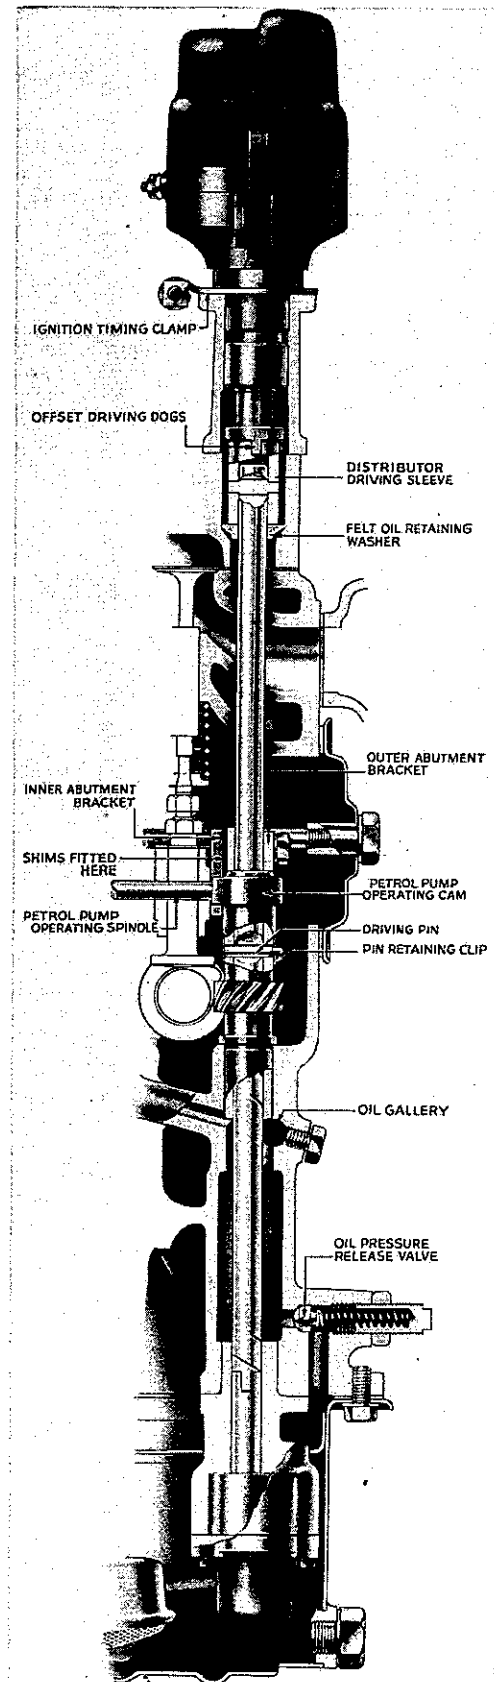

Fig. 26. Distributor and oil pump driving shaft.
**Distributor and oil Pump Drive (Fig. 26).**
6. Remove the driving pin retaining clip and withdraw the pin (See Fig. 26).